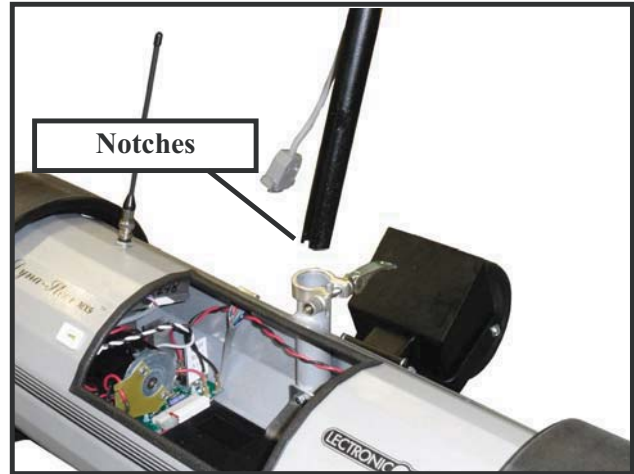

Figure 6
2. Lift the quick release clamp lever to allow the handle to be inserted. Carefully insert the control handle into the body tube, aligning the notches in the handle with the guide pin in the body tube. Push down the quick release lever to lock the handle in position. See figure 6.